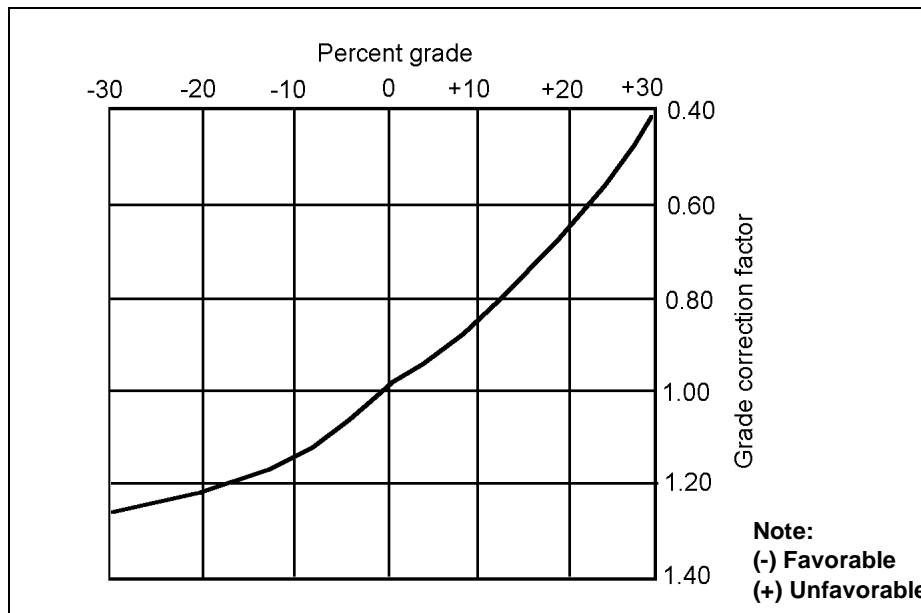

Figure 2-15. Dozer-Production Grade Correction Factors
Step 2. Determine the grade correction factor—(-) favorable or (+) unfavorable. Find the percent grade on the top horizontal scale of *Figure 2-15*. Read down vertically and intersect the grade correction curve, then read to the right horizontally and locate the grade correction factor on the vertical scale.
Step 2. Grade correction factor = 1.15 (*Figure 2-15, page 2-20*)